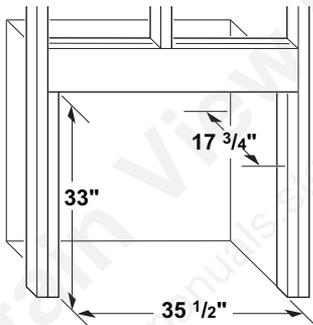
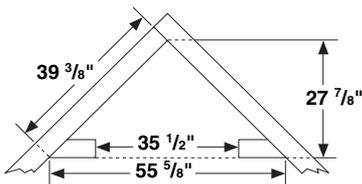

Figure 34 - Rough Opening for Installing in Wall
Figure 35 - Rough Opening for Installing in Corner
1. Frame in rough opening. Use dimensions shown in Figure 34, page 22 for the rough opening. If installing in a corner, use dimensions shown in Figure 35, page 22 for the rough opening. The height is 33" which is the same as the wall opening above.